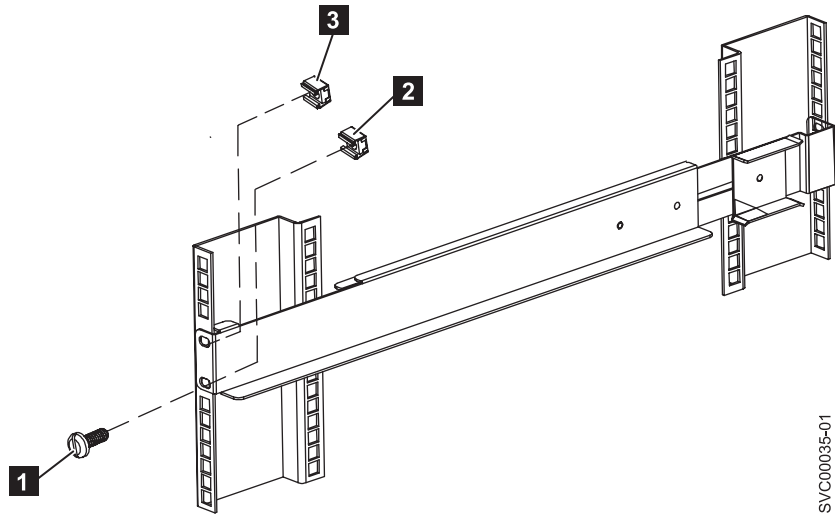

Figure 318. Securing the front rail on the 2145 UPS-1U
7. Install two clip nuts (2 and 3 in Figure 318 on page 283) to the front of the rack, then attach the rail using just one M6 x 10 screw in the bottom mounting hole 1.